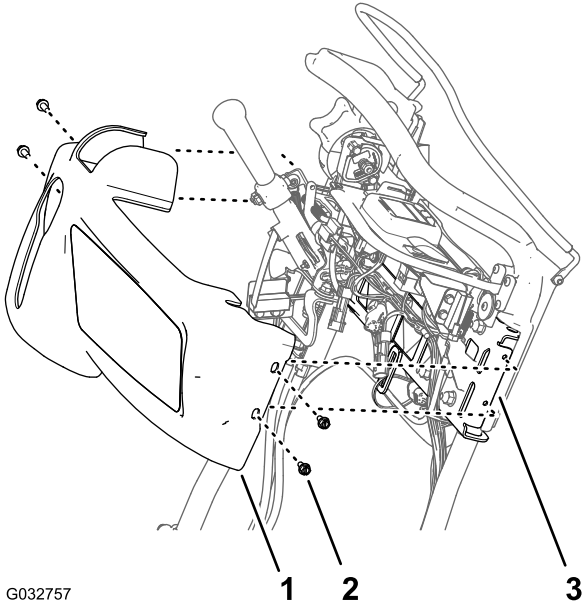

Figure 3
1. Remove the 4 flange-head screws (1/4 x 1/2 inch) that secure the control-panel cover to the support bracket of the handle bar (Figure 3).
2. Move the control panel cover up and forward from the control panel, and remove the cover from the machine (Figure 3).